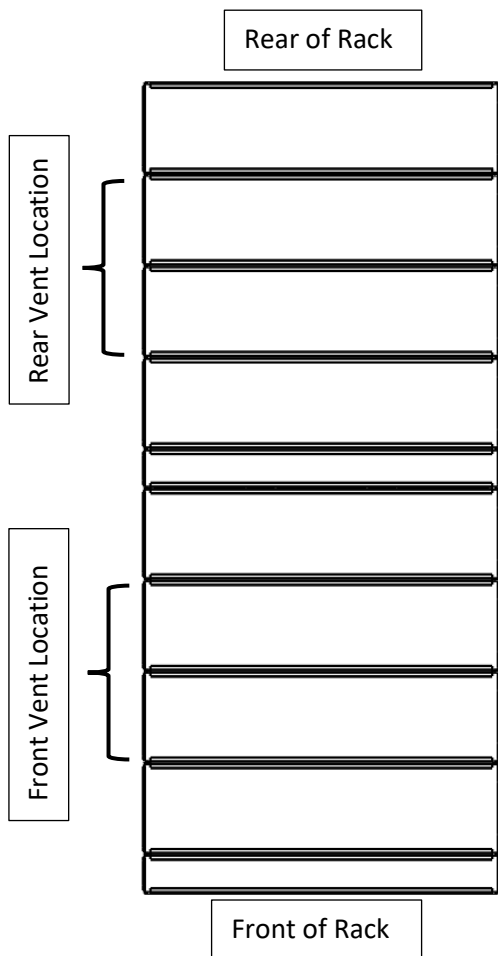

Figure 1: Flooring Panel Layout
2. Layout flooring panels into the desired orientation with the flat surface down using Figures 1 & 2 as a guide. The edge of the panel with the threads should face the rear of the rack.